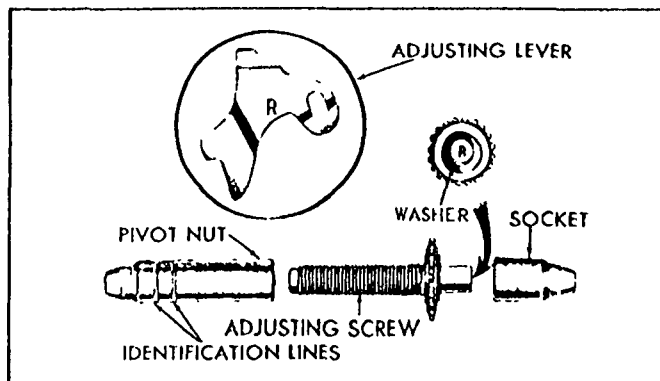

Figure 16- Adjusting Screw and Lever Identification
Interchanging the brake shoe adjusting screw assemblies from one side of the vehicle to the other would cause the brake shoes to retract rather than expand each time the automatic adjusting mechanism operated. To prevent installation on the wrong side of the vehicle, the socket end of the adjusting screw is stamped with an R or L (Fig. 16). The adjusting pivot nuts can be distinguished by the number of grooves machined around the body of the nut. Two grooves on the nut indicate a right thread; one groove indicates a left thread.
11. Hook the cable hook into the hole in the adjusting lever. The adjusting levers are stamped with an R or L to indicate their installation on right or left brake assembly (Fig. 16).